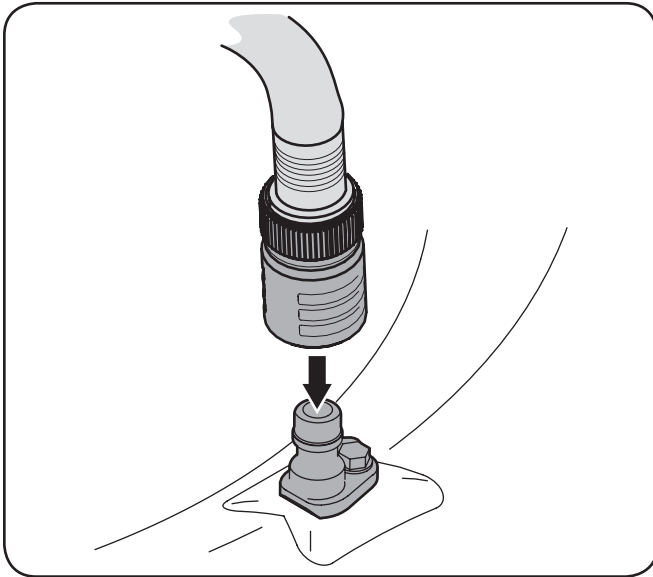

Figure 6-3
- Attach the hose coupler to the water port on your decks surface. See Figure 6-3.